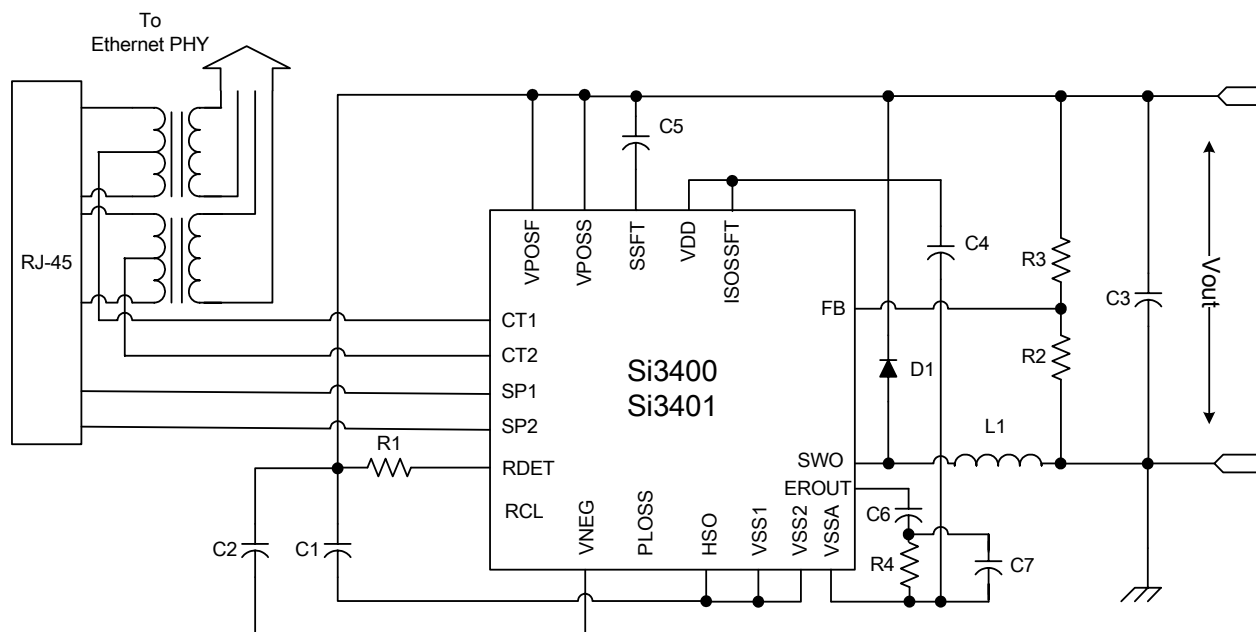

Figure 1. Schematic—Class 0 with Non-Isolated 5 V Output*
6. Applies to non-isolated applications only (VOUT on schematic in Figure 1).
Notes: 1. Transient surge defined in IEC60060 as a 1000 V impulse of either polarity applied to CT1–CT2 or SP1–SP2. The shape of the impulse shall have a 300 ns full rise time and a 50 μs half fall time with 201 Ω source impedance. 2. The classification currents are guaranteed only when recommended RCLASS resistors are used, as specified in Table 10. 3. IPORT includes full operating current of switching regulator controller. 4. The PD interface includes dual-level input current limit. At turn-on, before the HSO load capacitor is charged, the current limit is set at the inrush level. After the capacitor has been charged within $\sim 1.25\text{ V}$ of VNEG, the operating current limit is engaged. This higher current limit remains active until the UVLO lower limit has been tripped or until the hotswap switch is sufficiently current-limited to cause a foldback of the HSO voltage. 5. See “AN296: Using the Si3400/01 PoE PD Controller in Isolated and Non-Isolated Designs” for more information. 6. Applies to non-isolated applications only (VOUT on schematic in Figure 1).